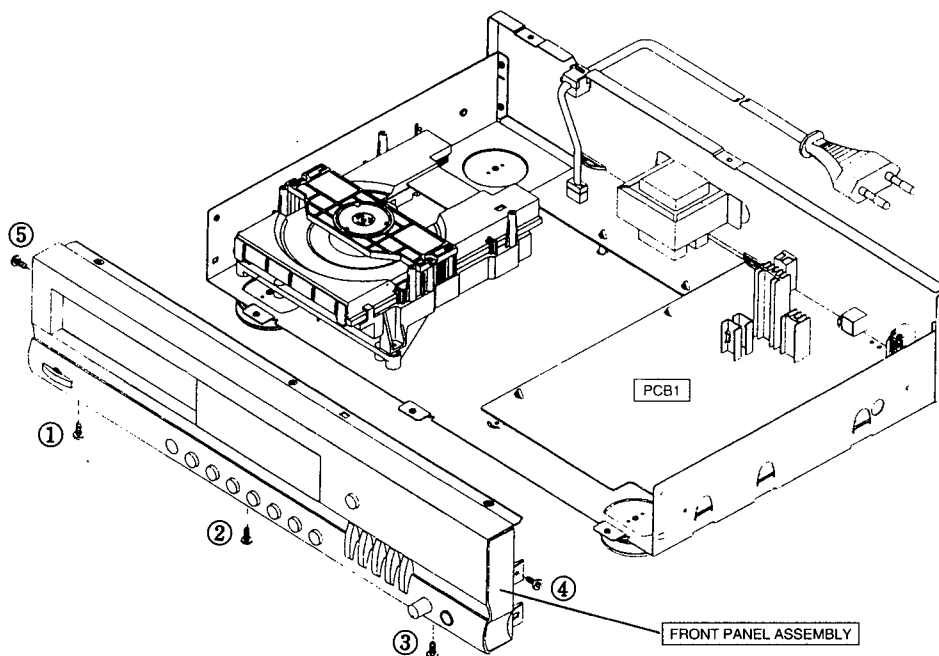

Fig. 4
- 2) Remove screws ① to ⑤ in Fig. 4.